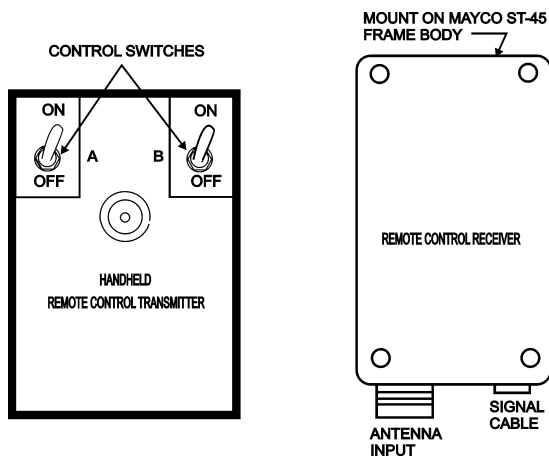

Figure 34. Handheld Receiver/Transmitter
14. The MAYCO ST-45 Concrete Pump has a remote control feature that allows the pump to be remotely controlled. If desired, the pump can be operated via a receiver/transmitter method (Figure 34) or a hardwire method, which utilizes a 7.62 meter (25-ft.) extension cable. The manual remote cord (Figure 35) should be installed under the main control box. Contact your MAYCO/MULTIQUIP representative for further information.